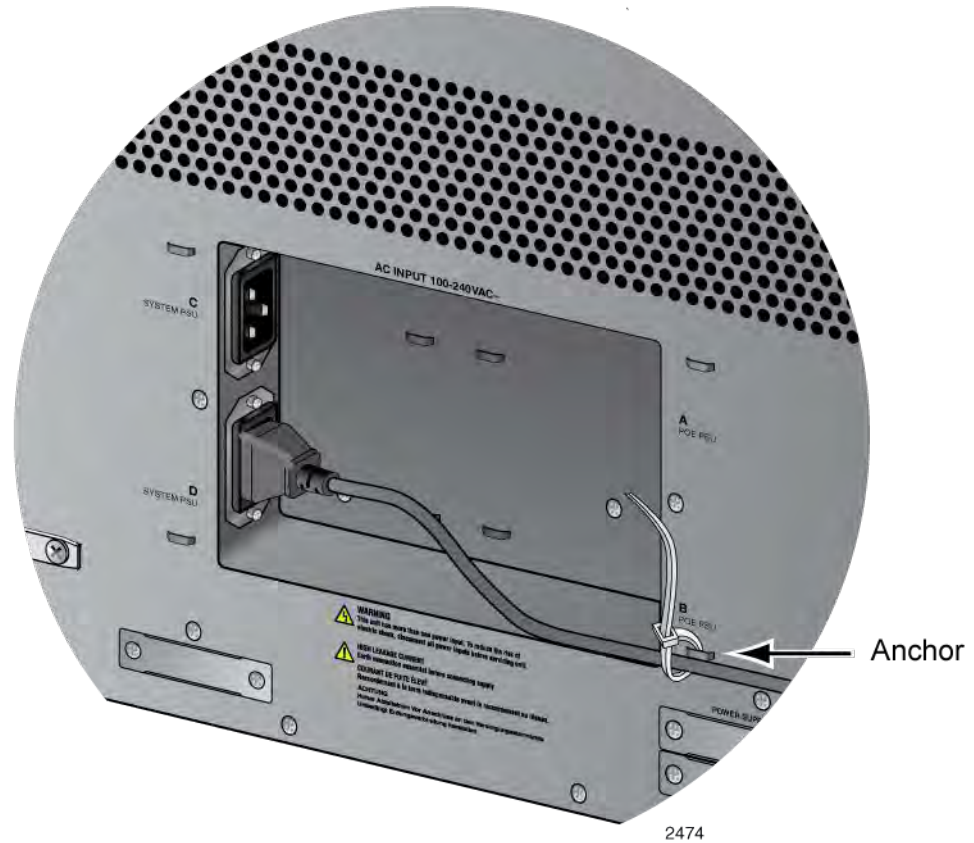

Figure 120. Securing the Power Cord for the AT-SBxPWRSYS1 or AT-SBxPWRSYS2 AC Power Supply to an Anchor
3. Use the twist tie included with the power supply to secure the cord to an anchor on the chassis to protect it from being accidentally pulled out, as shown in Figure 120 on page 202.